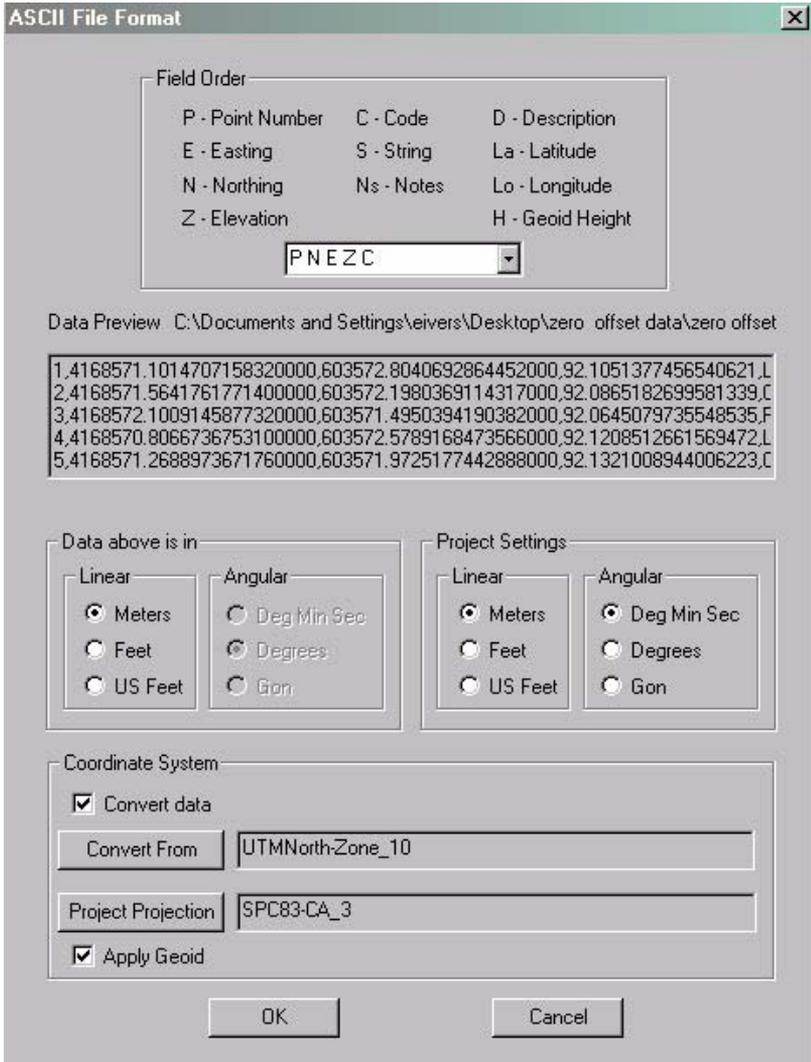

Figure 3-23. File Format Confirmation
- From the *ASCII File Format* screen (Figure 3-23), confirm that the *Field Order* is correct for the data in the corrected file being imported (P-Point Number, N-Northing, E-Easting, Z-Elevation, C-Code).
- Select the appropriate units in the corrected file (Figure 3-23).
5. Select the appropriate *Coordinate System* for the corrected data file being imported (Figure 3-23).
6. If a geoid is being applied to the data in the SiteMaster project, select the **Apply geoid** check box (Figure 3-23).